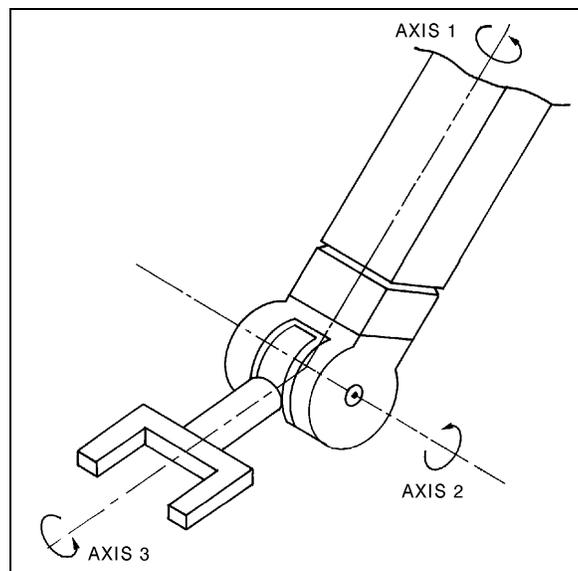

Figure 1-13
- ◆ This type of joint is very useful in devices like a camera tripod where one link (the camera) must be free to point in any direction. Spherical joints are not used in robot arms because it is not feasible to connect three motors to the joint to control the rotation of the output link about the three axes. However, it is possible to achieve the same freedom of movement by combining three separate revolute joints whose axes of motion intersect at one point. This arrangement is often used for the wrist joints of a robot arm, as shown in Figure 1-13, and is termed a spherical wrist, since it can be pointed in any orientation relative to the first link.